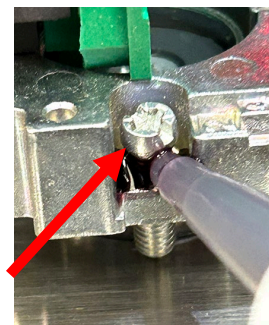

Figure 27
56. Using a standard flathead screwdriver that fits all the way across the screw head, tighten both set screws securely to the bezel (see Figures 27, 28, 29).